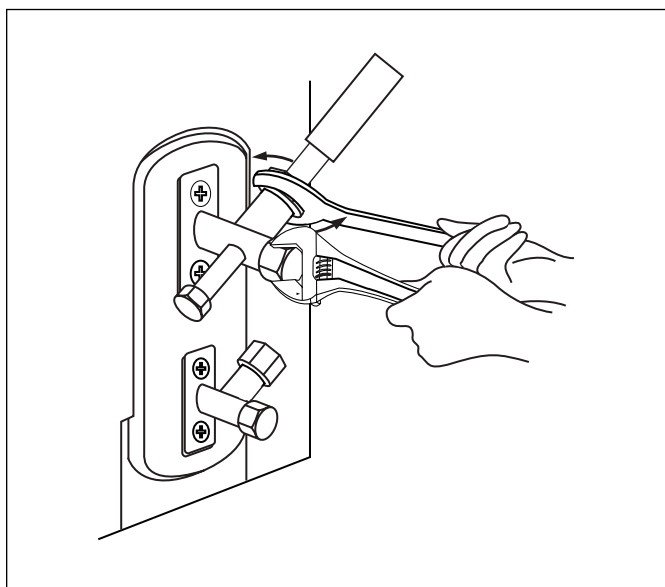

Figure 25
4. Using a wrench, hold the body of the valve. Do not grip the nut that seals the service valve. See Figure 25.